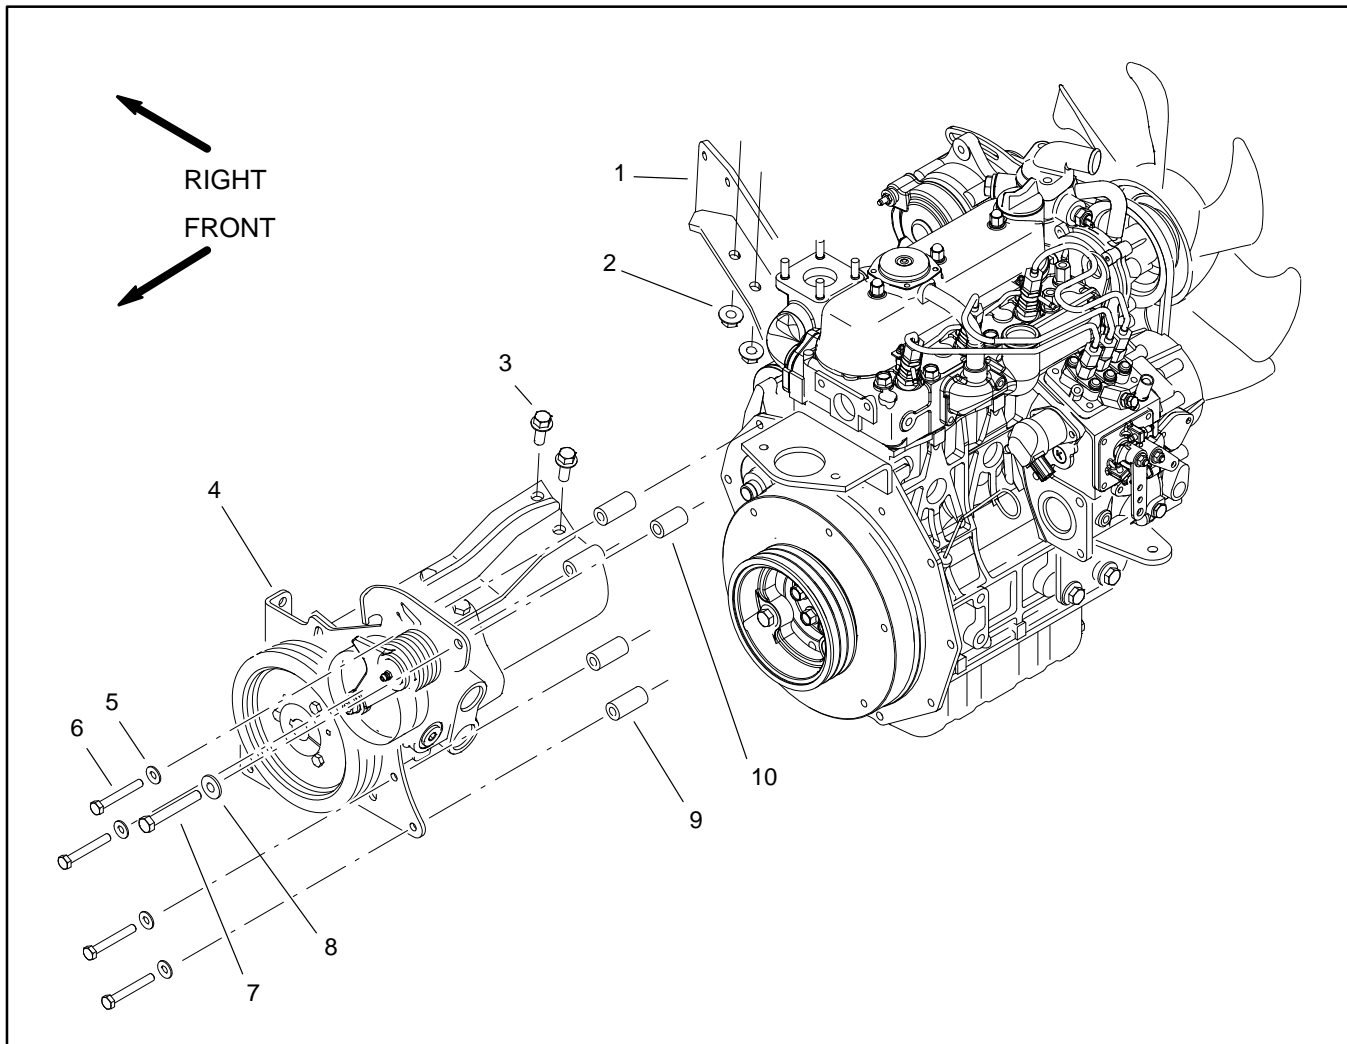

Figure 12
- 2. Flange nut (2)
- 3. Flange screw (2)
- 5. Hardened washer (4)
- 6. 10 mm cap screw (4)
- 9. Long spacer (4)
15. Separate hydrostat and pump assembly from the engine as follows (Fig. 12):
2. Install hydrostat and pump assembly to the engine as follows (Fig. 12):